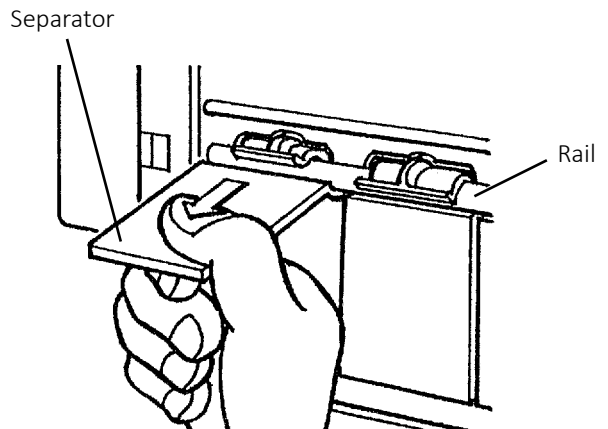

Fig. 38
16. Hook each separator onto the rail, then pull it hard towards you until it locks into place. See Fig. 38.